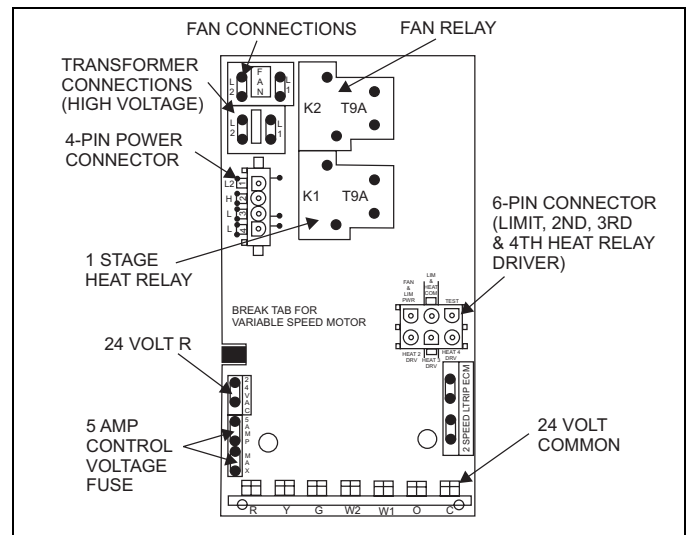
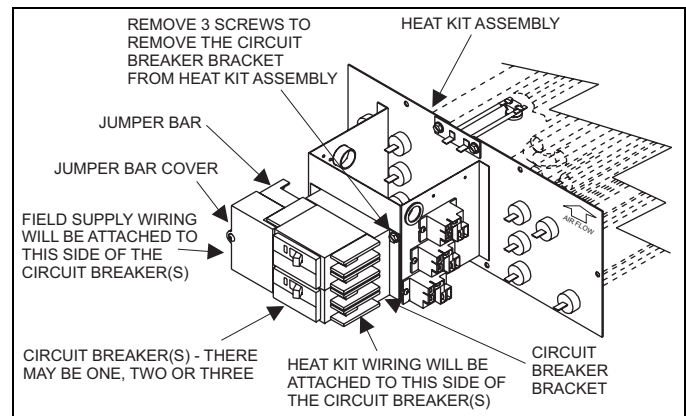

FIGURE 8: Control Board
FIGURE 9: Electric Heaters in Horizontal Configuration - Right Hand Air Flow
The low voltage transformer and fan / heater control, are standard on all models. See Figure 8. The air handlers are shipped pre-wired to operate as cooling only applications. To complete the installation for cooling
only, install the 6-pin jumper plug to the control board to bypass the heater limit controls. This jumper plug is secured to the duct cover near the 4-pin power plug harness. Failure to install the plug will cause the blower to run continuously. (See Figure 8).
1. Remove the 4-pin power plug from the control board (See Figure 8).
2. Remove the four (4) screws from the duct cover and remove the duct cover from the air handler.
**Right-hand Airflow Application Only - Models with Circuit Breakers - See Figure 9**